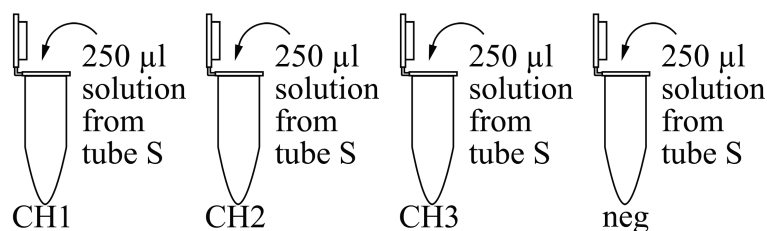

Fig. 13
7. Using a P1000 micropipette and sterile tips, transfer 250 μ l solution from tube “S” to each of the tubes “CH1”, “CH2”, “CH3”, and “neg” (Fig. 13). Discard tube “S” in the designated disposal container.